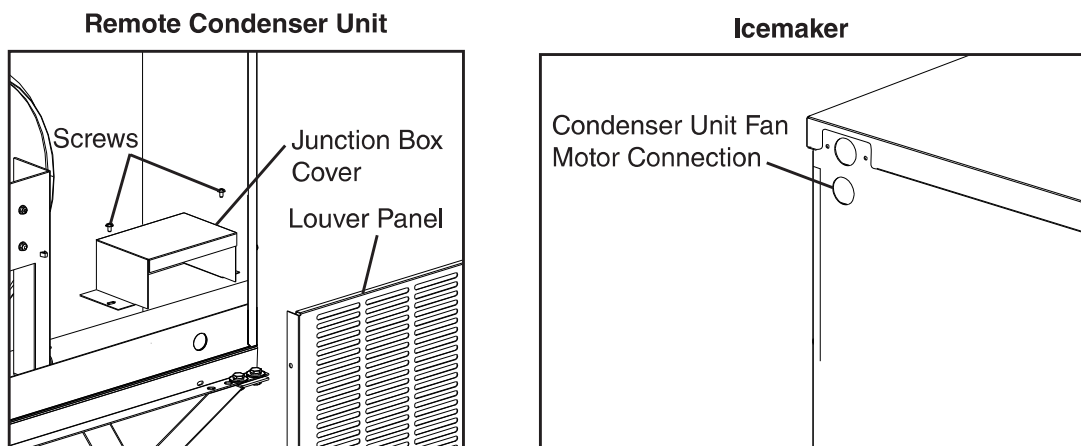

Fig. 16
- 1) Remove the remote condenser unit louver panel. See Fig. 16.